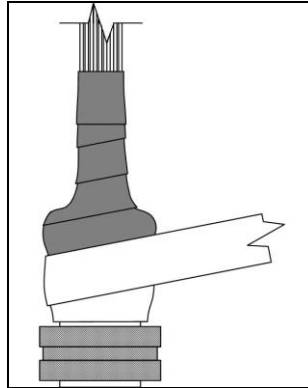

Figure 3
- 3.4.3 After the first full wrap is complete, continue wrapping with a 50% overlap over the top of the StretchSeal™ Tape. Use the line in the middle of Self-Fusing Silicone Tape as a guide and remove the release film as required. (see figure 3)